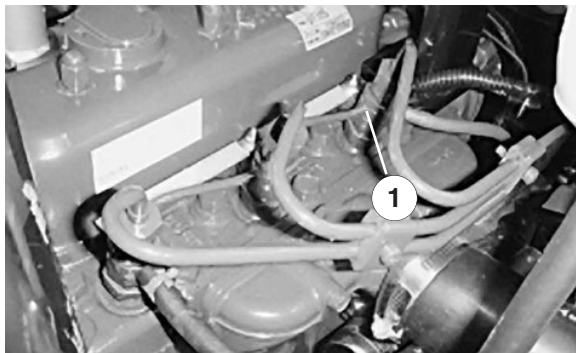

Figure 27
1. Loosen the pipe connection to the No. 1 injector nozzle and holder assembly at the injection pump (Fig. 27).